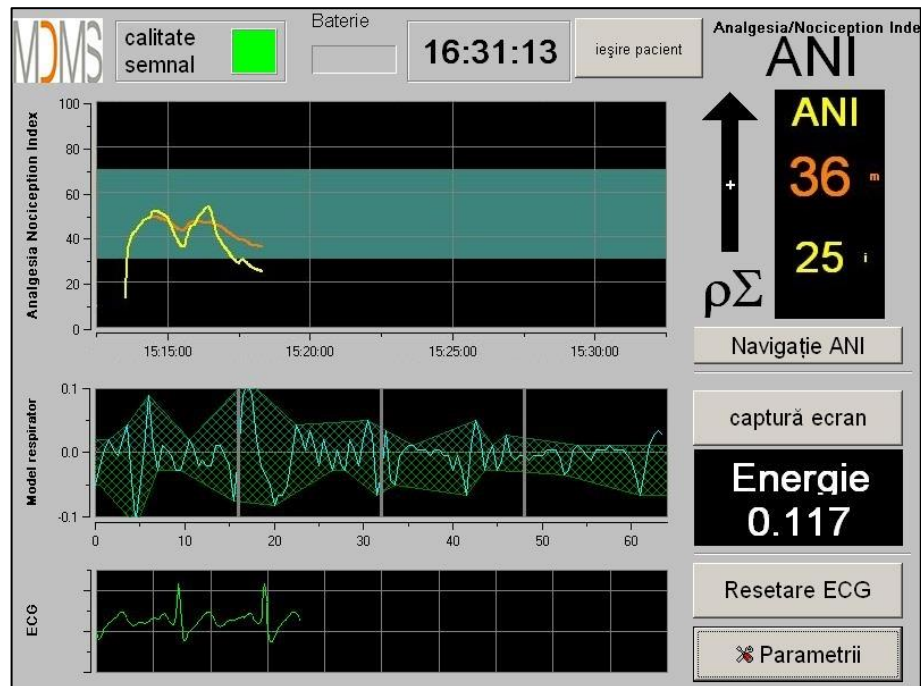

Figure 30
- “Expert” mode which displays respiratory pattern and one more function called “Energy” (figure 30)